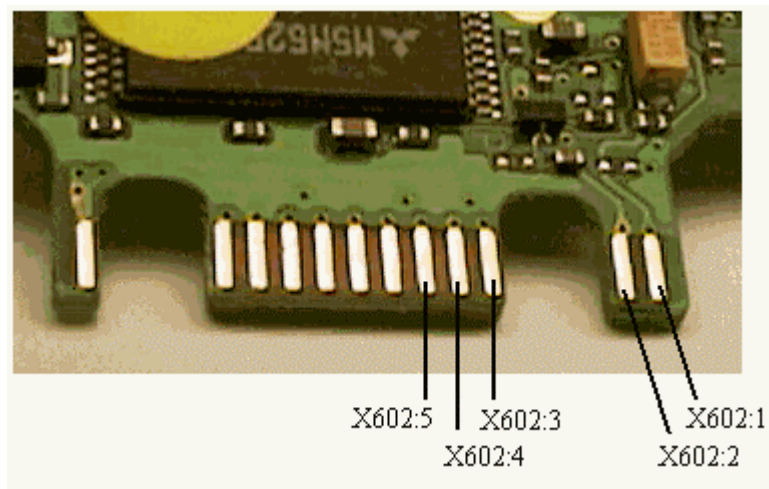

Fig. 9.8
- Measure the resistance from X602 pad 5 to ground (>100 kohms, fig. 9.8). Make sure there's no dirt or oxide between the components below the dome foil (the components in fig. 9.5).
- Measure the resistance from X602 pad 3 to ground (>100 kohms). Make sure there's no dirt or oxide between the components at the marked area (fig. 9.8).
Open the phone and check for water damages, especially around the system connector pads (X602) 1, 2 and 4 (fig. 9.8).
Open the phone and check for water damages, especially around the system connector pads (X602, fig. 9.8) 1, 2 and 4.
Open the phone and check for water damages, especially in the marked area in fig. 9.8 above the system connector pads.
Measure the resistance from X602 pad 3 to the unmarked side of R635 (~0 ohms, fig. 9.8 and 9.5).
Measure the resistance from X602 pad 2 to the unmarked side of R636 (~0 ohms, fig. 9.8 and 9.5/9.4).